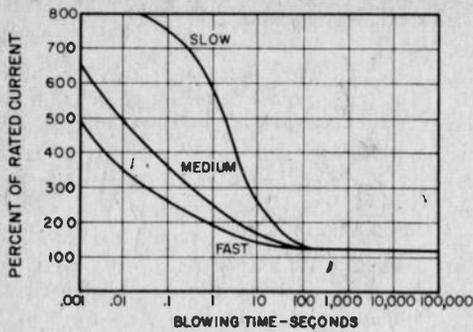

Fig. 3. Note how slow-blow fuse takes considerably longer time for a current surge to open the circuit the fuse protects.
**Medium Lag.** This is the most common type you're apt to encounter. It also goes under the name "Normal Lag" or "Standard." This is the fuse for auto and other radios, amplifiers, TV sets, heaters, and lighting circuits. If you want an idea of how such a fuse behaves, check the curve marked "Medium" in Fig. 3. It reveals, for example, that at 200 percent of rated current (two times), the fuse typically blows in about 5 or 6 seconds. The greater the overload, the faster the action.
**Quick-Acting.** This fuse category is also known as "Instrument" or "Fast-Acting." As the name implies, this kind of fuse blows faster than the medium type. It's useful for delicate instruments, meters, and other devices that can't tolerate even small overload currents for any length of time. The fuse element is very fine and low mass, causes it to melt at rates marked "Fast Blow" in Fig. 3. Note that at 200 percent rated current, the fuse expires in less than a second.